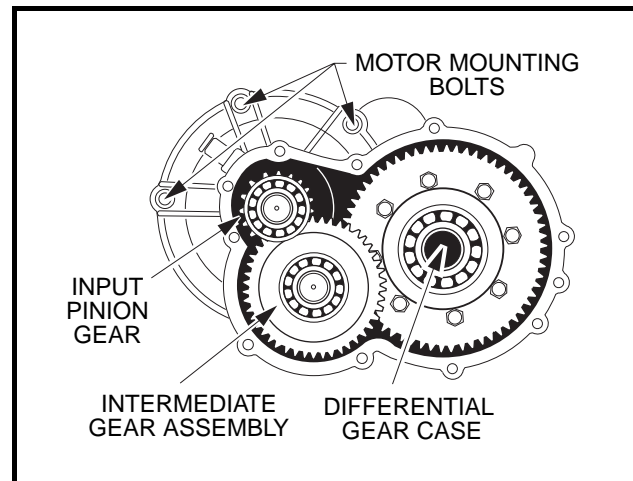
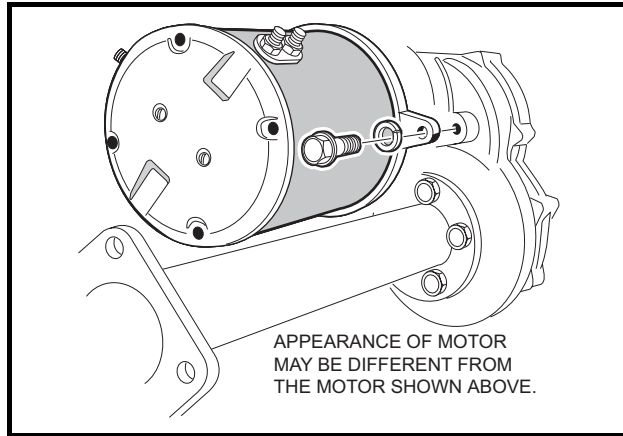

Figure 17-11 Motor Mounting Bolts
Figure 17-12 Motor Positioning Bolt
9. Remove the three motor mounting bolts (**Figure 17-11, Page 17-6**) and the motor positioning bolt (**Figure 17-12, Page 17-7**) mounting the motor to the transaxle. **See following CAUTION.**
4. Press new bearing (16) onto input pinion gear (17).
5. Apply grease to the lip of the new oil seal (10) and install the seal using a transaxle pinion seal tool (CCI P/N 1014161). The lip of the oil seal should face the inside of the transaxle housing. Make sure the seal is firmly seated.
6. Install the differential assembly, the intermediate gear assembly, and the input pinion gear simultaneously. Be sure all bearings are seated properly in the housing. Rotate the input shaft to check for smooth gear operation (**Figure 17-11, Page 17-6**).